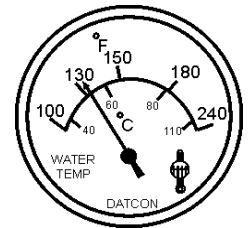

Figure 51. Coolant Temperature Gauge
15. The **coolant temperature gauge** (Figure 51) will indicate the coolant temperature. Under normal operating conditions the coolant temperature should be between 165 and 215 degrees Fahrenheit (**Green Zone**).